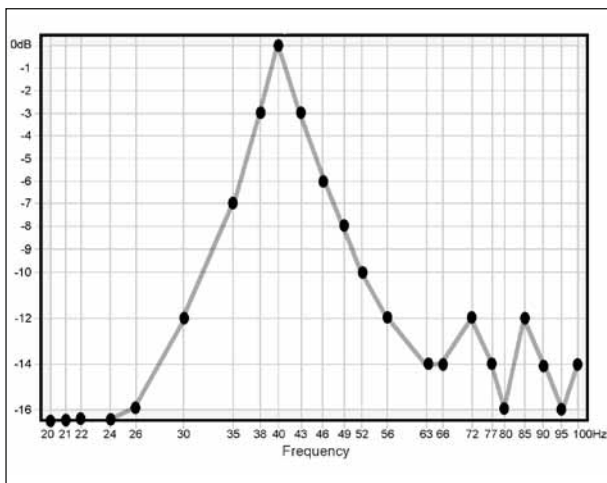

Figure 18. Narrow Response
1. Select a new test position: Cue the test track corresponding to the center frequency of the dip. In the first example in Figure 18, you would play Track 13 (56Hz). Press **Play** ►. You will see a reading very close to what you had before. Now, slowly move the RSLM around the area, if possible remaining within about a foot of the original test point. As you move the RSLM, watch the bar graph. You will observe large level fluctuations. Find a position that restores the level to approximately that of the adjacent test points. You may find it helpful to move the RSLM vertically. Dips can be oriented in any axis. The position that restores the level to about that of the adjacent test points is your new test position.